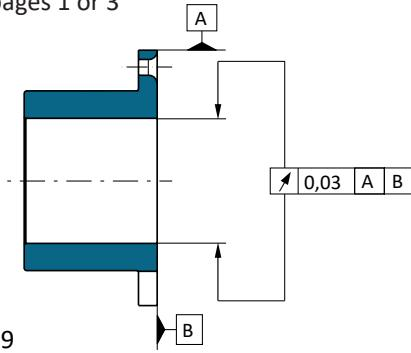

Fig. 99
- Shaft run-out and axial run-out tolerances: 0.03 mm (Fig. 99)